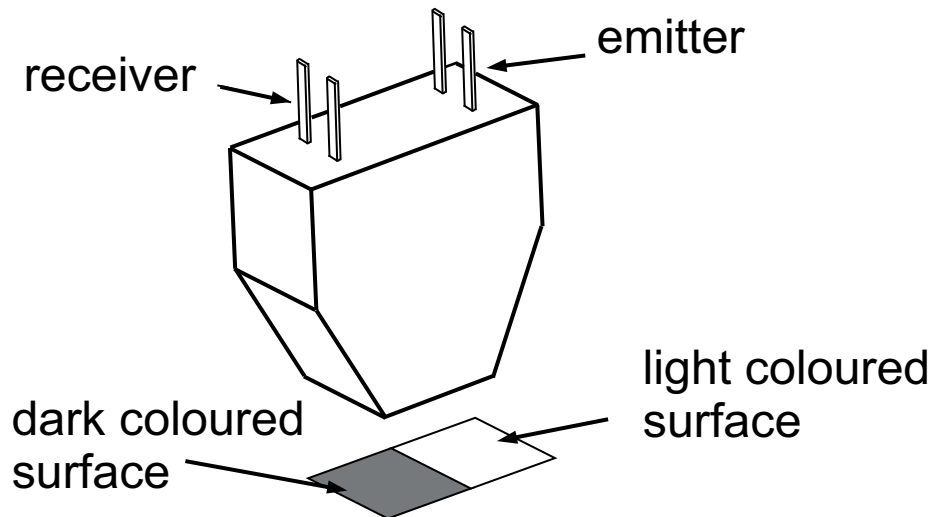
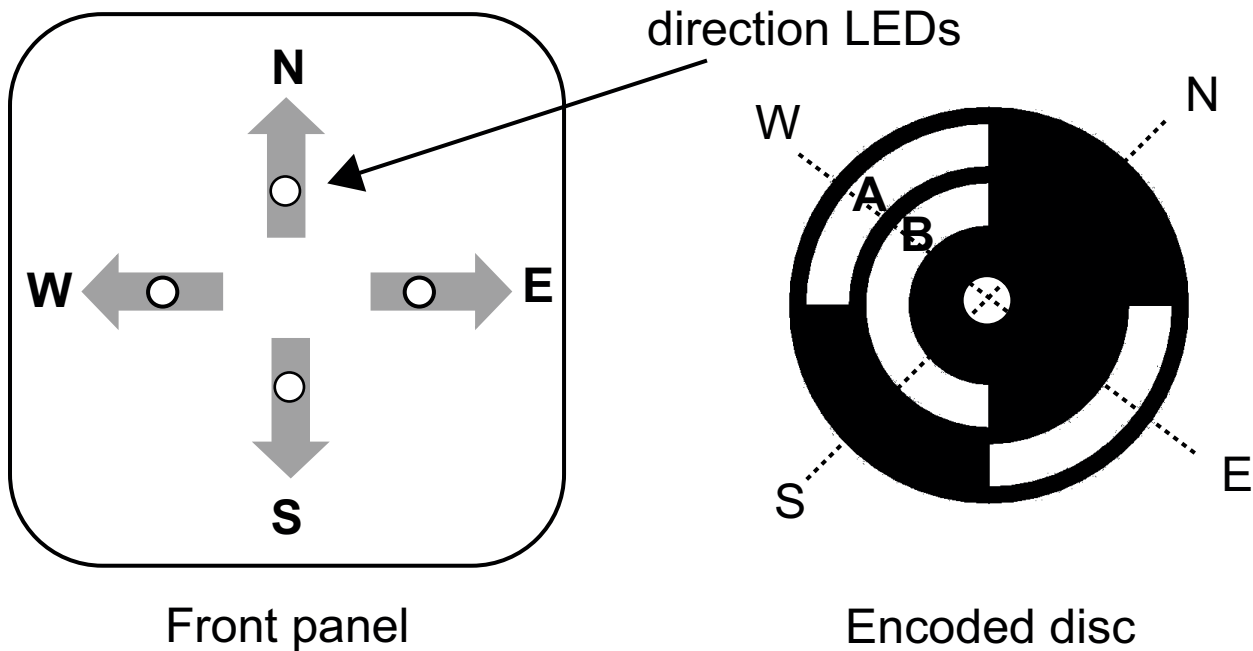
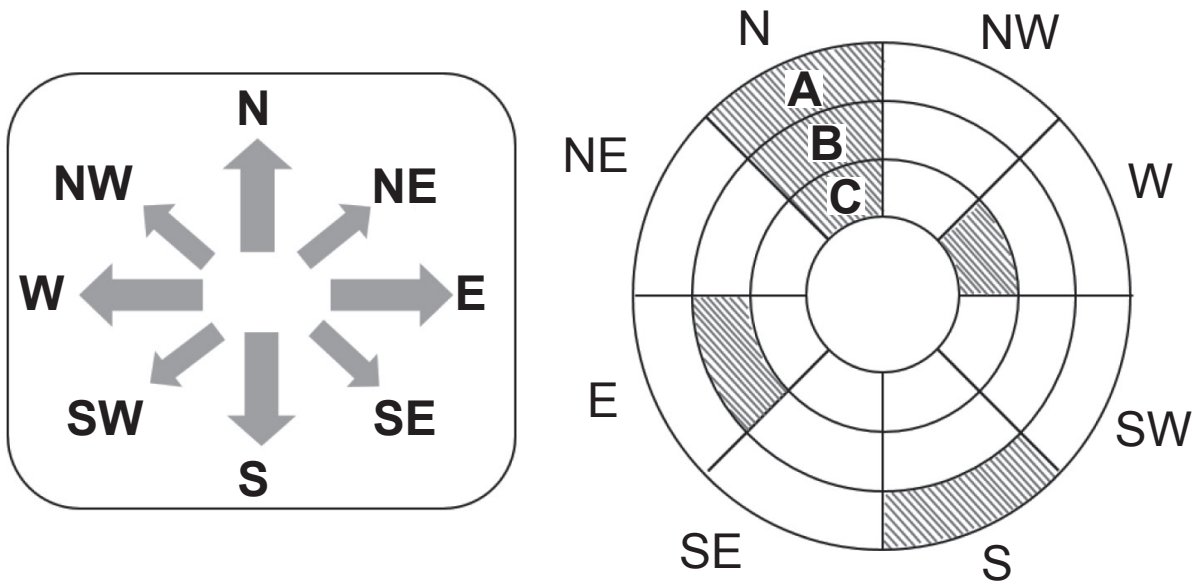
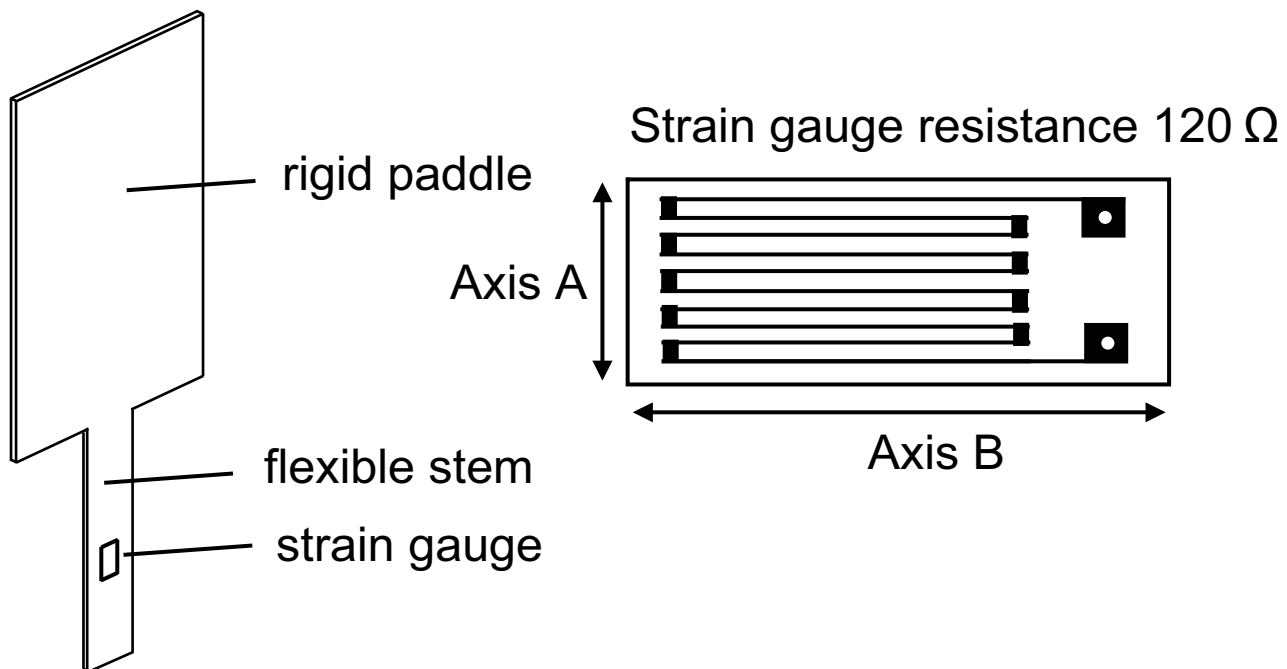

Fig. 5
Fig. 6
Fig. 7
Fig. 8
- 2 (a) A reflective optical switch is shown in **Fig. 5**. The pin connections for the emitter (LED) and receiver (phototransistor) are labelled. The optical switch is positioned above a surface which has both a light and a dark coloured surface.
- (i) Draw the circuit symbols for the emitter and receiver in the reflective optical switch shown in **Fig. 5**.
(ii) The emitter LED in the reflective optical switch shown in **Fig. 5** emits infrared light. Explain **one** main advantage of using infrared light in optical switch applications. [2 marks]
(iii) Draw and label a circuit diagram showing how the emitter and phototransistor from the optical switch in **Fig. 5** could be utilised to produce logic 'high' voltage when positioned above a light coloured surface and a logic 'low' when positioned above a dark coloured surface. [3 marks]
(b) The front panel of an electronic weather vane display system is shown in **Fig. 6**. The wind direction LEDs on the front panel shown are to be illuminated by means of a logic circuit. The inputs to the circuit are reflective optical switches of the type shown in **Fig. 5**. The optical switches are labelled A and B and are positioned over an encoded disc which has light and dark coloured areas as shown. The disc itself will be turned by a weather vane and the appropriate direction LEDs will then be illuminated.
- (i) Complete the truth table below showing the logic signals from the sensors for each of the wind directions as the disc in **Fig. 6** rotates in a clockwise direction. Assume that a logic 1 is produced when the optical switch is positioned over a light coloured surface and a logic 0 when positioned above a dark coloured surface. [4 marks]
(c) The complete logic circuit used to control the four direction LEDs in **Fig. 6** is to be replaced by a PIC based circuit and flowchart. The inputs and outputs for the PIC are labelled as follows:
(i) Explain **one** main advantage (other than cost) of using a PIC based circuit instead of a logic circuit to control the direction LEDs as shown in **Fig. 6**.
(d) The wind direction system in **Fig. 6** is to be developed in order to provide a wider range of directions. The proposed front panel is shown in **Fig. 7** along with the incomplete encoded disk to allow eight directions to be shown using three reflective optoswitches A, B, and additional switch C. The encoded disk utilises Gray Code.
(ii) Complete the Gray Code disk in **Fig. 7** by adding shading to the NW, SW, SE and NE sectors of the disc to enable all eight directions to be detected and displayed. Assume a shaded segment will produce a logic '0' and that the disk rotates clockwise. [4 marks]
(e) A wind speed indicator is to be added to the wind direction system in **Fig. 7**. It has been proposed that a strain gauge could be used to detect the deflection of a flexible stem that will bend according to wind speed. **Fig. 8** shows how a strain gauge is fixed to the flexible stem which in turn will be deflected by the force of the wind acting on a rigid paddle. The wind speed can then be displayed on an eight bar LED bar array display. The strain gauge is shown in **Fig. 8** and has a resistance of $120\ \Omega$. Under test conditions the resistance of the strain gauge increased by 1.25% at the maximum wind speed.
- (i) Calculate the resistance of the strain gauge shown in **Fig. 8** when experiencing maximum wind speed. [3 marks]